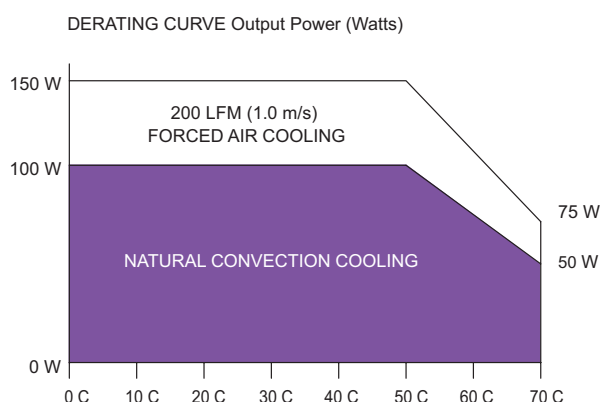

Figure 1: Derating Curve
- 1 Free air convection. Maximum continuous output power not to exceed 100 W. Refer to Figure 1 for the derating curve.